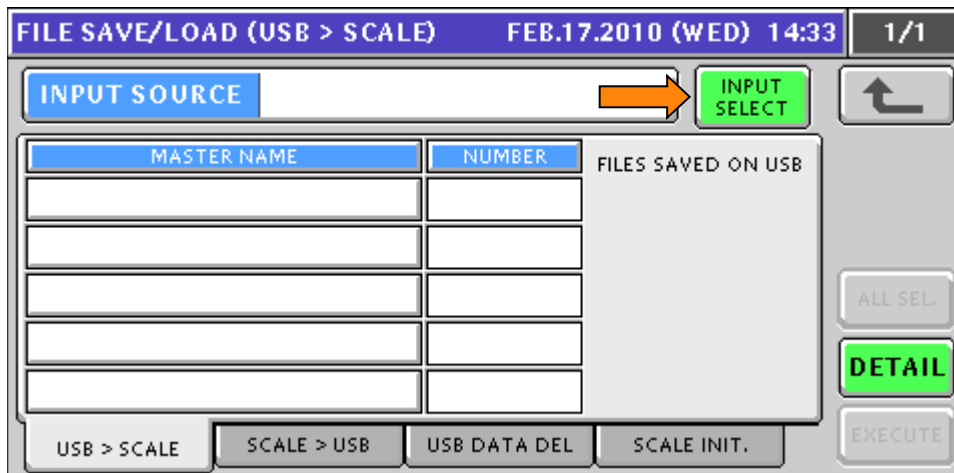

Figure 51. USB Memory Stick Input to Scale Memory
- f. Press the **USB > SCALE** tab. See Figure 51.